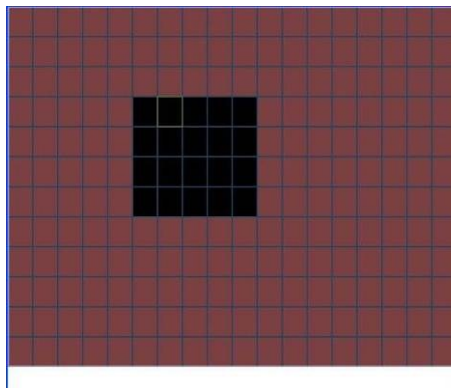

Figure 4-16
In the main menu, from Setting to Detect, you can see motion detect interface. See Figure 4-16. There are three detection types: motion detection, video loss, camera masking.
- Region: Click select button, the interface is shown as in Figure 4-16. Here you can set motion detection zone. There are 396(22*18 PAL)/330(22*15 NTSC) small zones. The green zone is current cursor position. Grey zone is the motion detection zone. Black zone is the disarmed zone. You can click Fn button to switch between the arm mode and disarm mode. In arm mode, you can click the direction buttons to move the green rectangle to set the motion detection zone. After you completed the setup, please click ENTER button to exit current setup. Do remember click save button to save current setup. If you click ESC button to exit the region setup interface system will not save your zone setup.